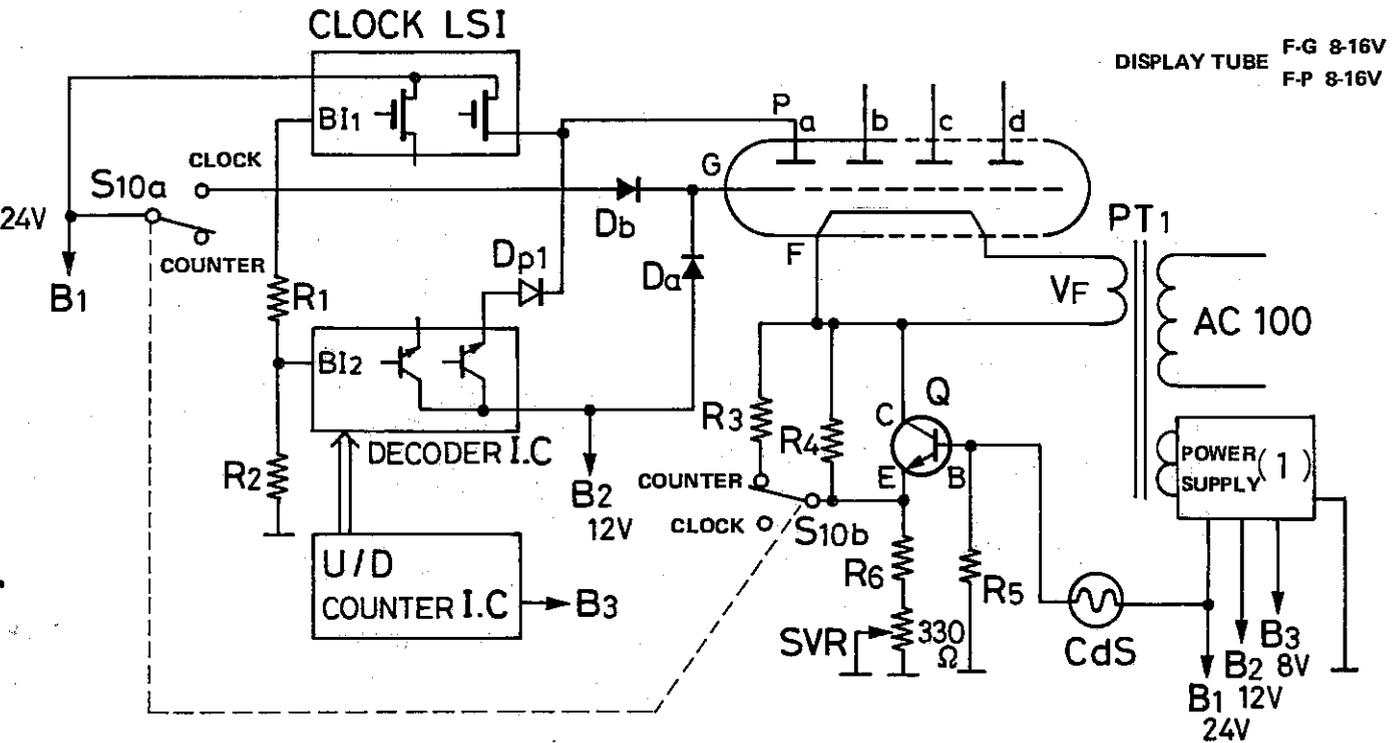

Fig. 7
As is clear from Fig. 7, the output from the decoder IC is connected to the LSE output through a diode (Dp), and then both outputs are supplied to each of the segment plates (P) of the display tube.
In Fig. 7, the switch S10b is interlocked with S10a. When the switch is closed on the counter side, R3 will be grounded, and the 330Ω resistance of SVR will be connected in series with the transistor Q. This causes a voltage of about 10V to be applied between P and F of the display tube, and makes it operate in a normal way. At this time, +B1 is applied to Q through CdS, so that the working resistance across C and E of the transistor can be varied with the base voltage, that is, with the amount of photo-resistance presented by CdS. This working resistance across C and E, as a composite resistance in parallel with R3, will change the voltage between P and F of the display tube to vary its brightness. When S10b is closed on the clock side, all the voltage will be applied across the transistor Q, and the voltage between P and F of the display tube will be reduced to somewhere between 10V and 12V, thus making the tube operate in a normal way. Of course, this voltage varies between 3V and 14V depending on the brightness of the environment. R4 is inserted in the circuit in order to ensure a minimum amount of brightness even when the CdS receives no light.